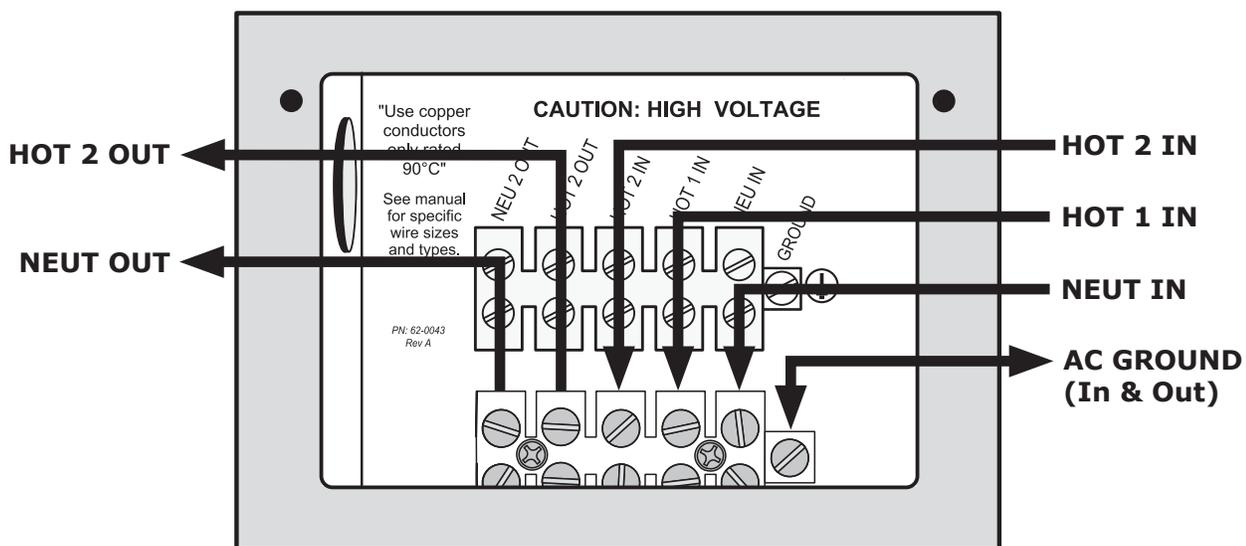

Figure 2-8, AC Terminal Block
The ME-G Series models have a five-pole AC terminal block and one AC ground terminal to connect the inverter's AC input and output wiring. This terminal block (see Figure 2-8) allows a service/distribution panel (main panel) to be wired to the inverter's input, and also allows a dedicated panel (sub-panel) between the inverter's output wiring and the AC loads. To access and view the AC terminal block and ground terminal, remove the two Phillips screws holding the AC wiring access cover plate (Figure 1-3, Item 15).
1. Remove the two Phillips screws on the AC access cover (see Figure 1-3, Item 15) to access the internal AC terminal block (see Figure 2-8).
AC Side – Where the AC output from the inverter is connected to an AC load center, there should be an equipment grounding conductor connected between the inverter case and the grounding point in the AC load center. The AC equipment grounding conductor is sized per Table 2-4, and is connected to the inverter’s AC equipment grounding terminal as shown in Figure 2-8.